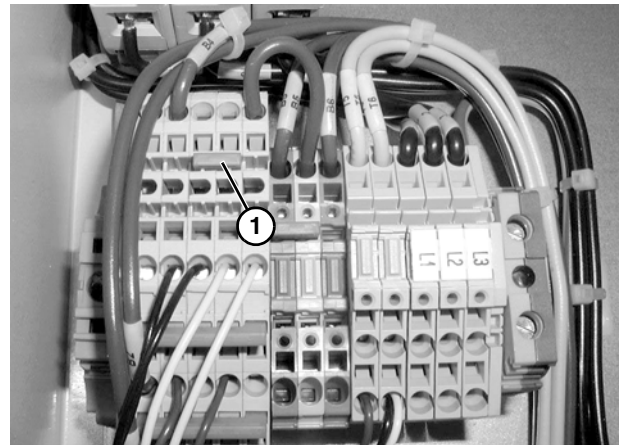

Figure 16
Jumper in the neutral position (**Figure 16, item 1**). The user selectable port will have no function (factory default).